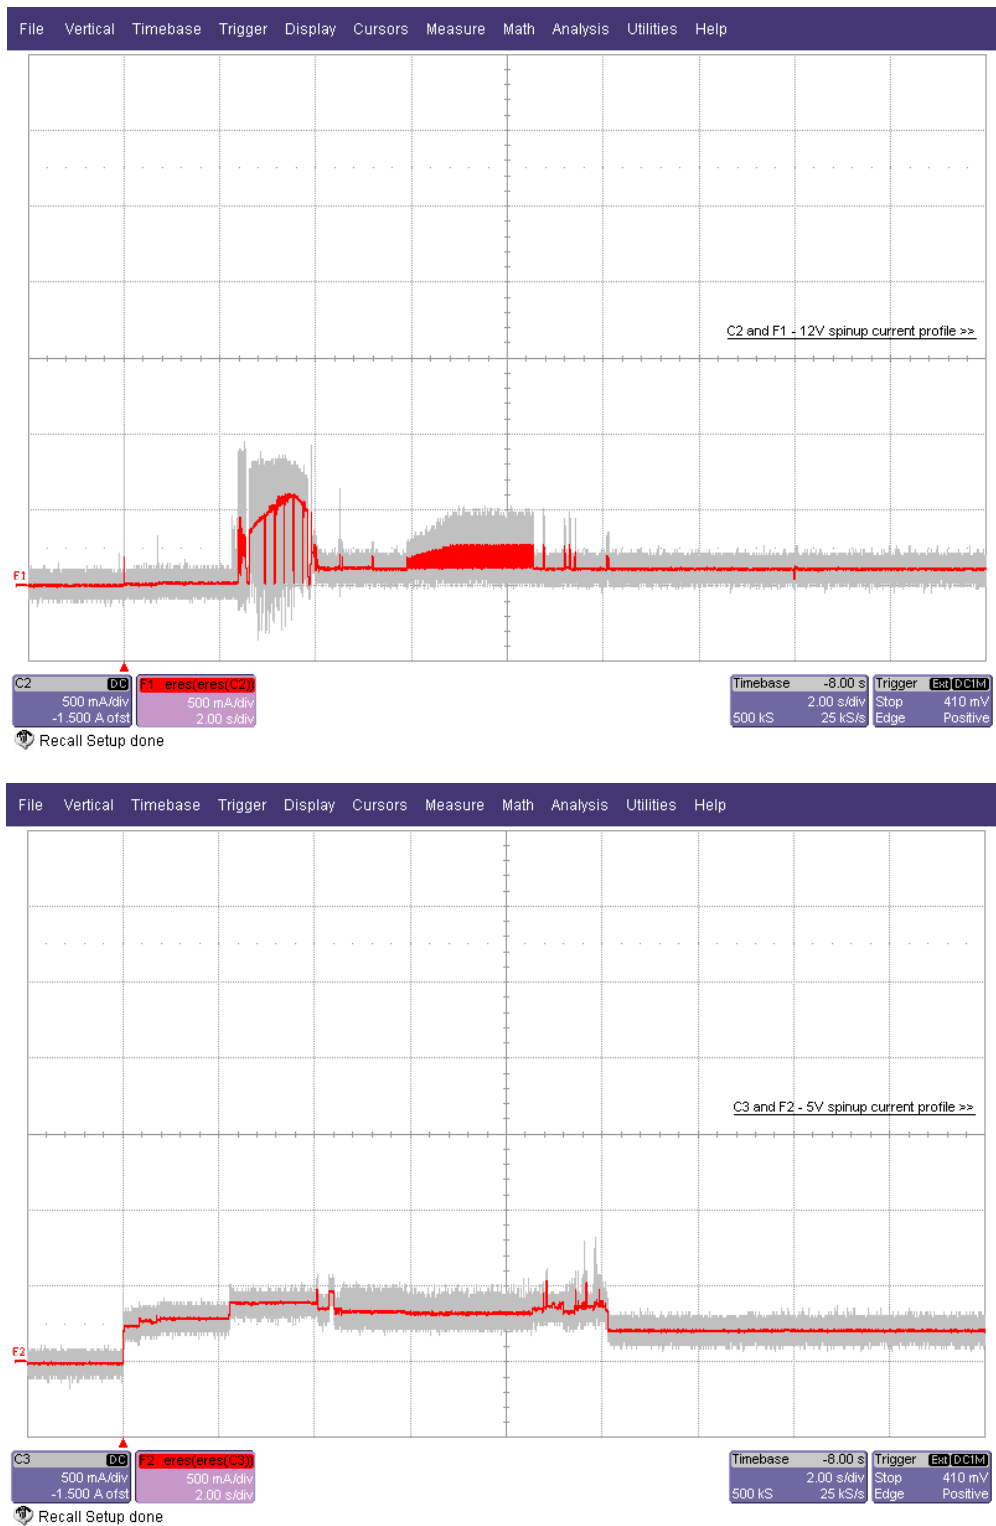

Figure 1. 500GB model current profiles
- [5] See +12V current profile in Figure 1.